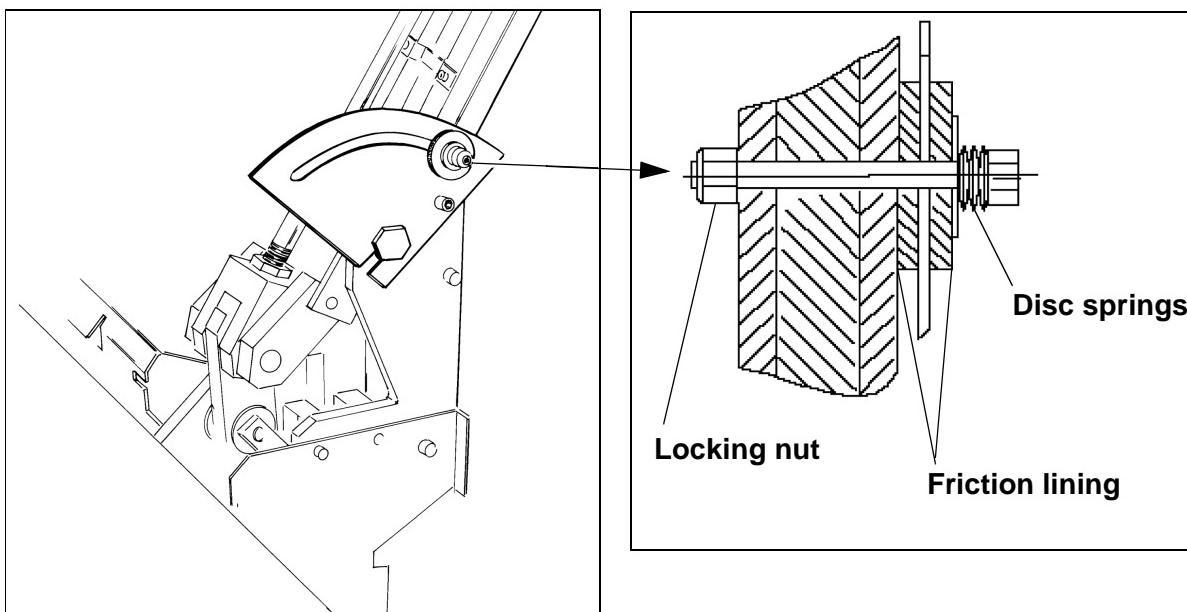

Fig. 25
- Remount the screw and the disc springs (Fig. 25). Secure the screw with the locking nut.